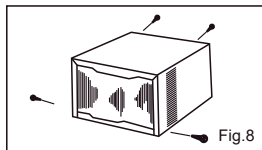

Fig.8
some Models have two more screws on the back of the cabinet. (Fig.8)
- 7) Reinstall the retaining bracket,front panel and mounting screws.(Fig.8,7,13)